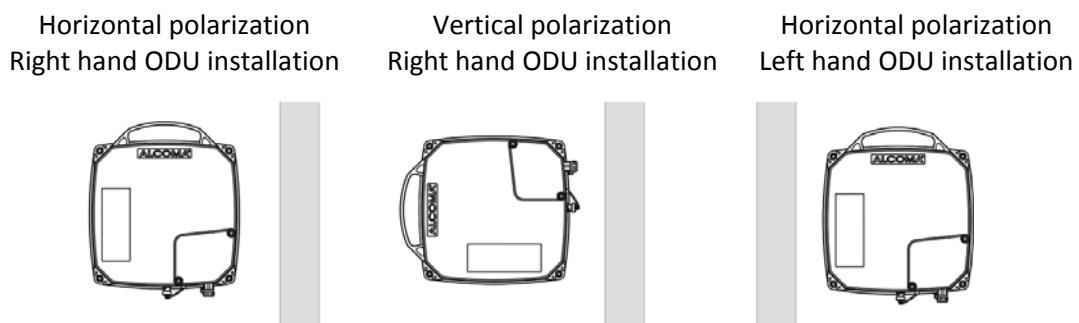

Figure 27 Setting of polarization for ZENITH 80
- Rotate ODU by 90° to the left or to the right. Grommet of interconnect cable must point down for horizontal polarization ant to the side for vertical polarization – see figure 27.